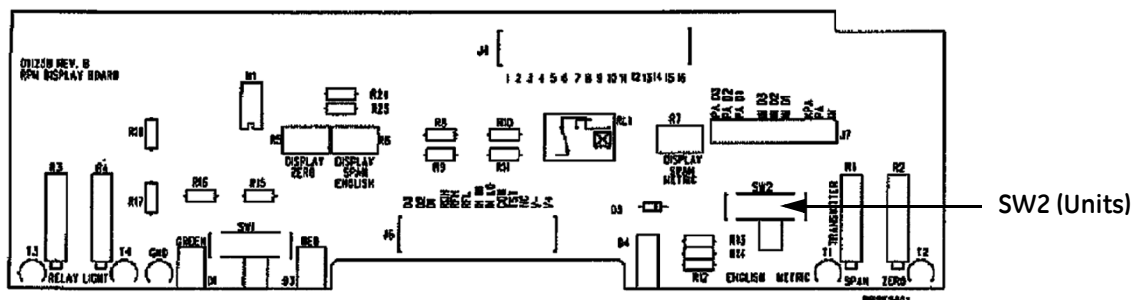

Figure 4: Display Board
- 5.2.1 - To change from English to metric unit, locate the selector switch **SW2** on the display board (see *Figure 4* below) and select either **METRIC** (Pascals and kPascals) or **ENGLISH** (inches of water).
- Locate the **ZERO** potentiometer **R2** and the **SPAN** potentiometer **R1** on the display board (see Figure 4 on page 3).